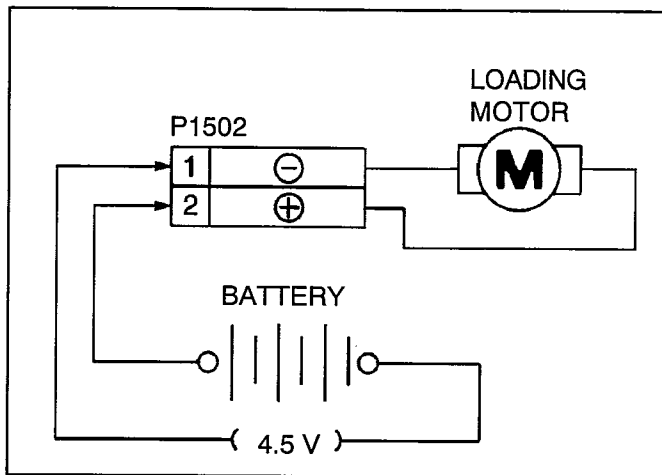

Fig. S15
- 1) Connect the battery (Manganese-Type R6 (AA)3pcs./+4.5V) to P1502 as shown in Fig.S15.